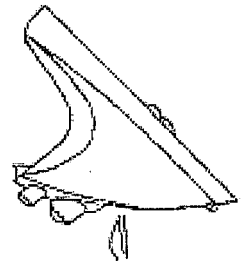

FIGURE 13
3. Hold the Detachable Water Tank upside down and gently shake it to remove the remaining water in the tank (see FIGURE 13).